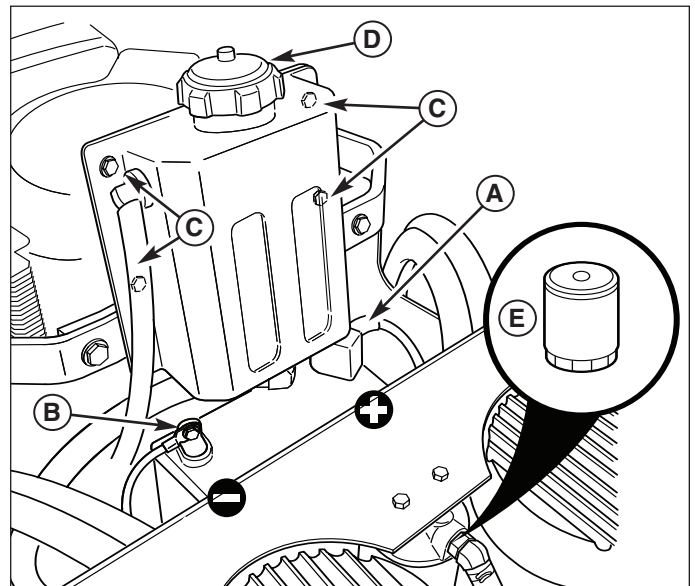

Figure 18. Battery Compartment
1. Locate the transmission oil filter (E, Figure 18) at the rear of the battery compartment under the seat.
1. Remove the hydraulic oil reservoir mounting hardware (C, Figure 18) and move the reservoir (D) forward to expose the battery.
2. Disconnect the cables from the battery, negative (black) cable first (B).
4. Reinstall the battery and reattach the battery cables, positive (red) cable first (A).